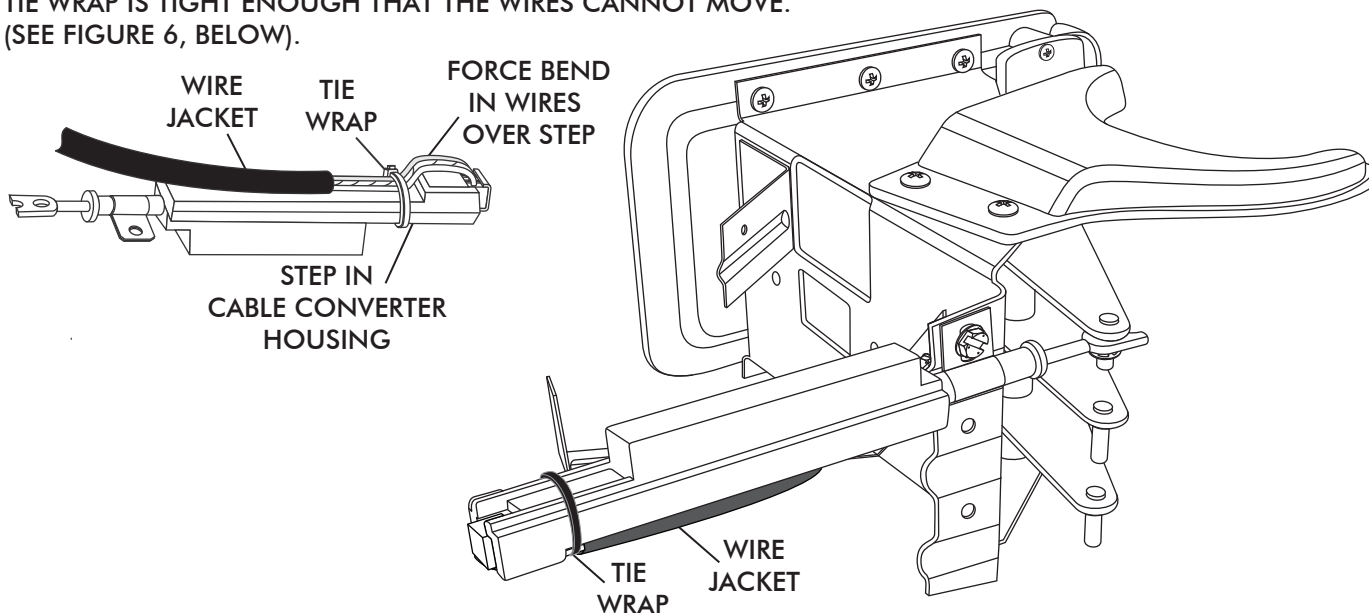

FIGURE 6
- ONCE THE CONNECTOR IS CORRECTLY PLUGGED INTO THE CABLE CONVERTER ASSEMBLY, SECURE THE WIRES TO THE CABLE CONVERTER ASSEMBLY USING ONE OF THE SUPPLIED TIE WRAPS (SEE FIGURE 6, BELOW). THE TIE WRAP MUST BE LOCATED BETWEEN THE END OF THE WIRE JACKET AND THE STEP IN THE CABLE CONVERTER HOUSING, FORCING A BEND IN EACH WIRE AS IT PASSES OVER THE STEP IN THE CABLE CONVERTER HOUSING. THE HEAD OF THE TIE WRAP MUST FALL ON THE EDGE OF HOUSING TO REMAIN TIGHT. ENSURE THAT THE TIE WRAP IS TIGHT ENOUGH THAT THE WIRES CANNOT MOVE. (SEE FIGURE 6, BELOW).